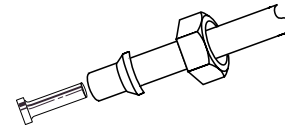

Figure 5
7. Take the remaining tubing, slip the compression hex nut and 3/8" ferrule onto the tubing (position the tapered end of the ferrule away from the hex nut) and put in the tube insert (See Figure 5). Fasten this assembly tightly onto 3/8" cold water supply outlet (See Figure 6). Pull on tube to make sure a good connection has been made. Connect other end to the inlet side of the filter head assembly as indicated by arrow (see Figure 4B).